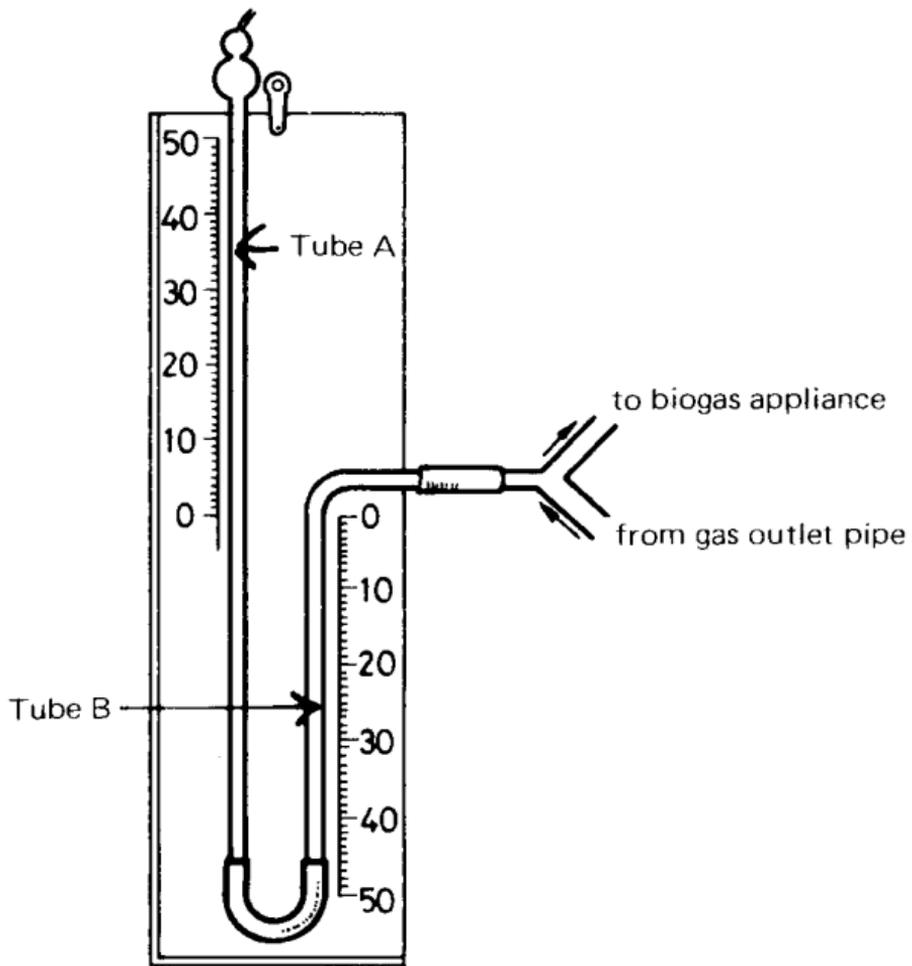

Fig. 5-1. A manometer.
1. Making a manometer: A manometer is a tool used to measure the pressure inside the biogas pit; it is simple in construction and easy to make (see Figure 5-1). Take two glass tubes 1-1.5 m in length with an internal diameter of 1 cm. Fix them to a board or a wall inside a room and join the bottom ends with a length of rubber hose or plastic tube; by the side of each tube make graduations in centimetre units. At the top of tube B, fix a round safety ball, or a bottle without a bottom of more than 200 ml capacity. Fill with coloured water (to facilitate observation) up to the level of the zero mark. Take a 'Y' tube and join to tube A, and observe the change in the water column in the U-shaped tube (which consists of tube A and tube B and the hose). From this we can tell the pressure inside the pit. For every 10 cm difference in the water levels on either side there is a corresponding change in pressure of a hundredth of an atmosphere. For example, if the level in tube A were to drop by 20 cm and the water level in tube B were to rise by 20 cm, then the difference in the level in the water column will be 40 cm – this will be called an internal pit pressure of 40 cm water.